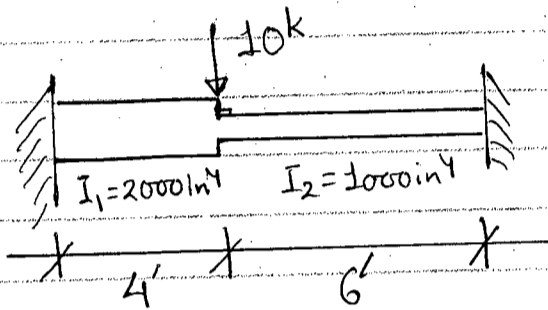

Fig. 8
5. (a) Calculate the reactions of the beam shown in Fig. 8. Use the Flexibility Method. Given: $E = 3000 \text{ ksi}$. (21 2/3)